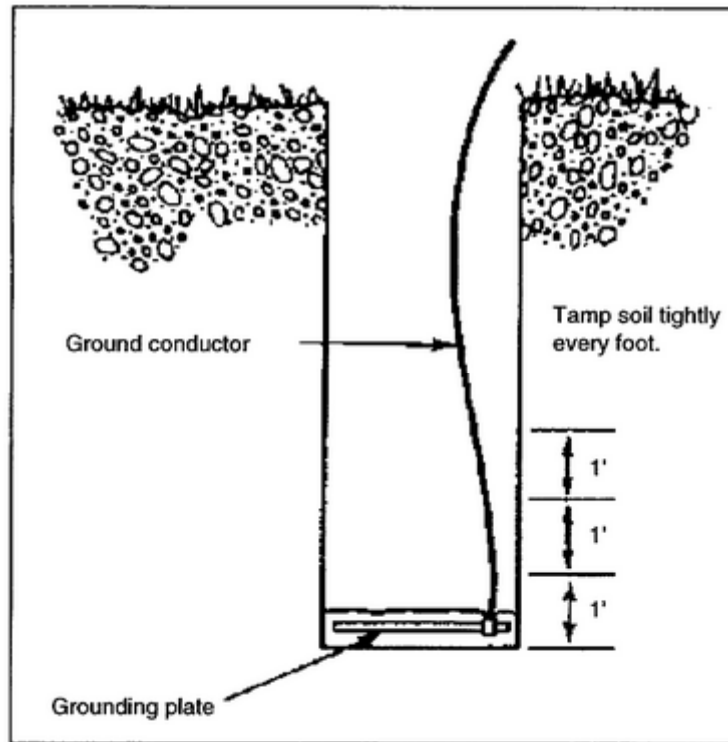

Figure 1-21. Buried grounding plate
- d. Grounding plates are buried 8 feet deep, and the hole is refilled in stages (Figure 1-21).
11.	A. 1 (page 1-12, Figure 1-21)